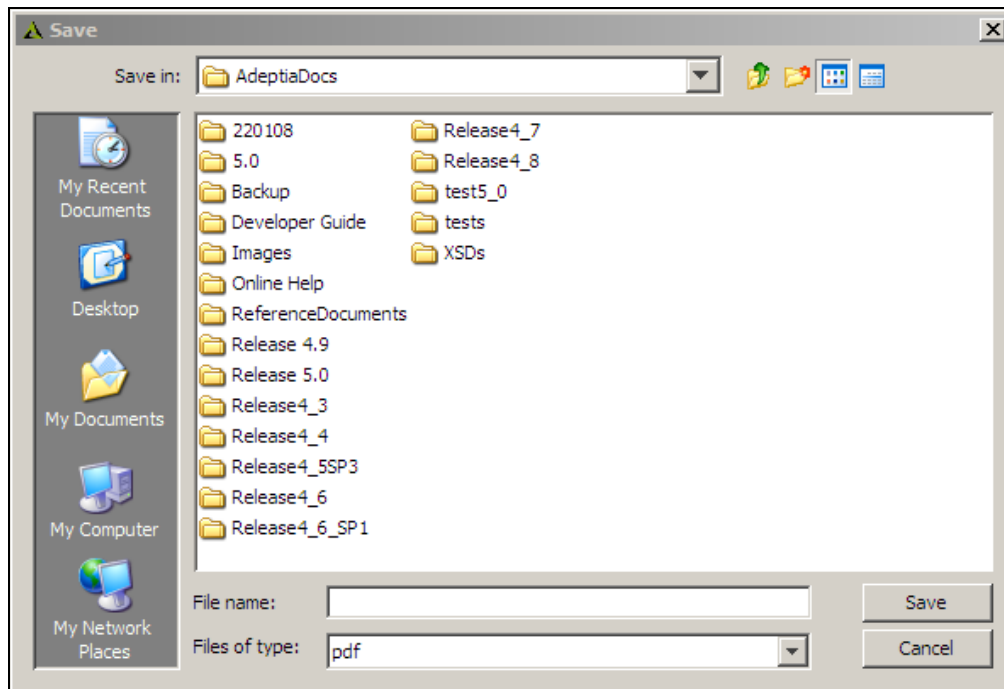

Figure 30: Save PDF
1. In Process Modeler, click **Generate PDF** () button. The Save PDF screen appears to select the path, where PDF file will be saved (see Figure 30).